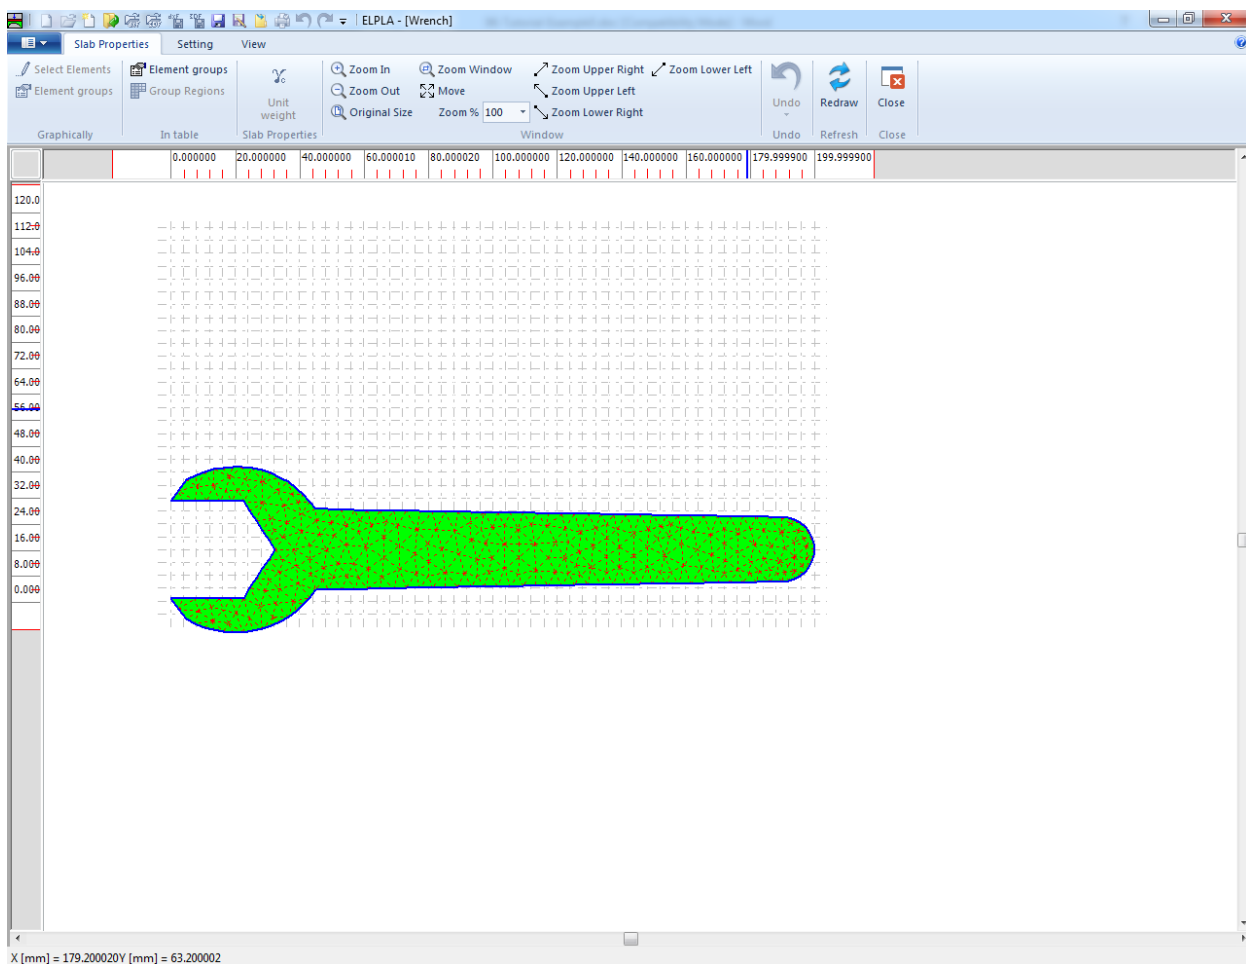

Figure 5.23 "Slab Properties" Window
To define the material properties, choose "Slab Properties" command from "Data" Tab. The following Window in Figure 5.23 appears with default slab properties. The data of material properties for the current example, which are required to be defined, are wrench material and wrench thickness.
- Choose "Save" command from "File" menu in Figure 5.23 to save the foundation properties
- Choose "Close" command from "File" menu in Figure 5.23 to close the "Slab Properties" Window and return to the main window